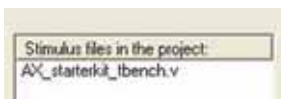

Figure 3-20. Selecting AX_starterkit_tbench.v
2. Select *AX_starterkit_tbench.v* in the *Stimulus files in the project* window, and click *Add* to add the file to the *Associated files* list. See Figure 3-20.